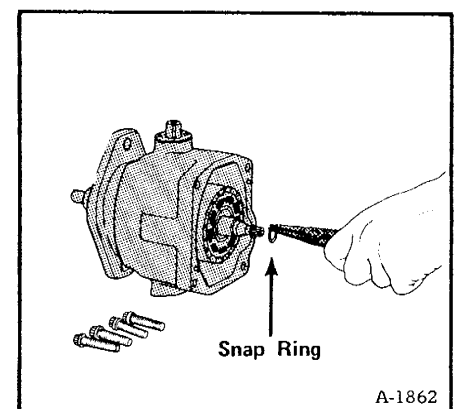

Fig. 3-18 Snap Ring Removal
- (2) Use snap ring pliers to remove the snap ring that holds the bearing sleeve on the shaft (Fig. 3-18).